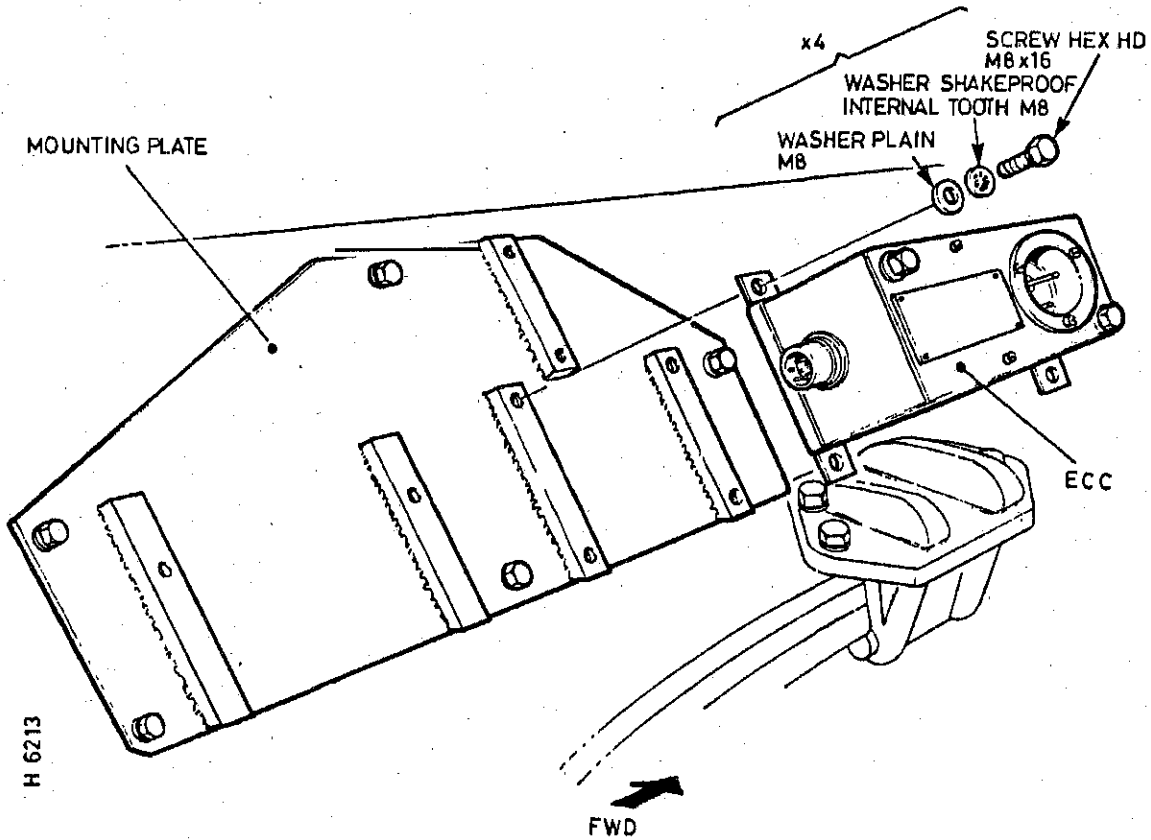

Fig 6 ECC junction box No. 1 mounting
23 Locate ECC junction box No. 1 (10) over the four fixing holes on the r.h.s. of Plate Mounting (18) fitted in para 18, and secure using four off each MB x 16 screws, MB shakeproof washers and MB plain washers. Refer to Fig 6. (Operation 10).